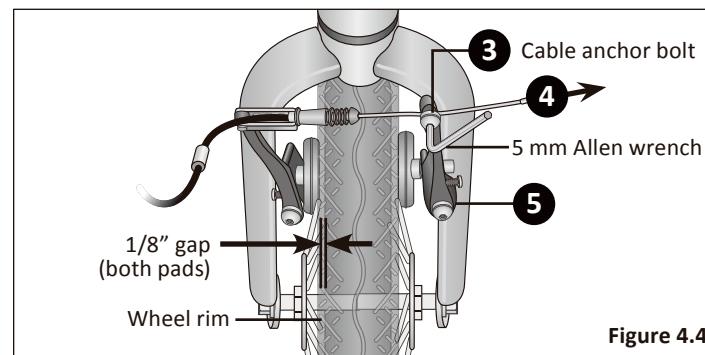

Figure 4.4
- ❸ Check the brake cable is seated in the brake lever. Using a 5 mm allen wrench loosen the cable anchor bolt enough so the brake cable can move freely. **Figure 4.4**
- ❹ Pull the brake cable through the cable anchor so the left brake arm moves towards the rim and there is approximately a 1/8" (3 mm) gap between the brake pad and rim.
- ❺ Move the right brake arm towards the rim until there is approximately a 1/8" (3 mm) gap between the brake pad and rim.
- ❻ Using the 5 mm allen wrench, firmly tighten the cable anchor bolt completely.